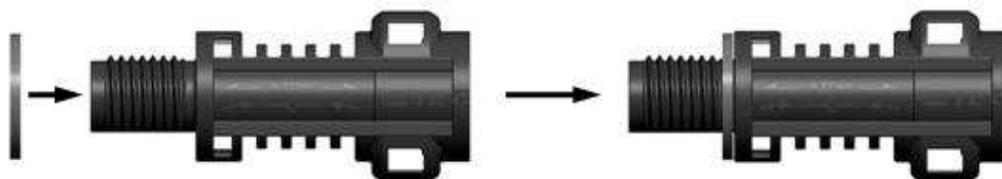

Figure 5
- 1) Assemble the Seal into the connector housing until it stop (see Figure 5)